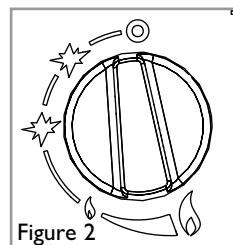

Figure 2
- **Corinthia models** : The control knob is located in the centre of the appliance and is accessed by swinging the glass panel upwards from the botto. The control knob is marked as shown in figure 2.